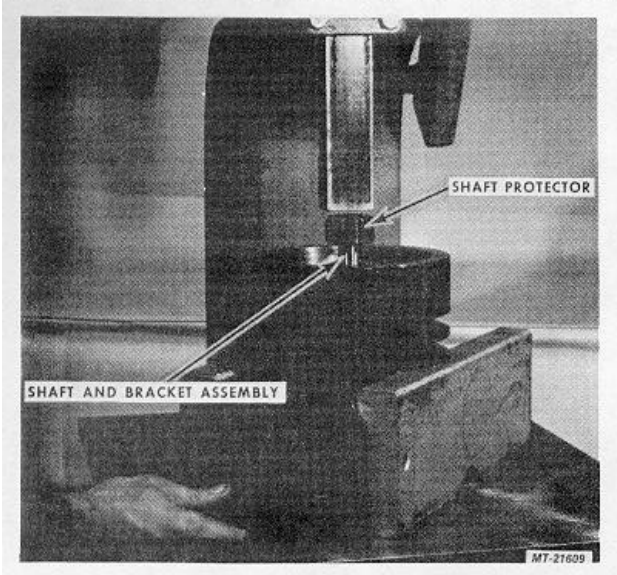

Fig. 79
42. The shaft must now be positioned in an almost exactly vertical position, Fig. 79. With one hand on the bracket, move the Shaft and Bracket Assembly to seek and find (by feel) the position where the cone of Bearing Assembly rests squarely in the cup. This position will be felt as a "secure" position.